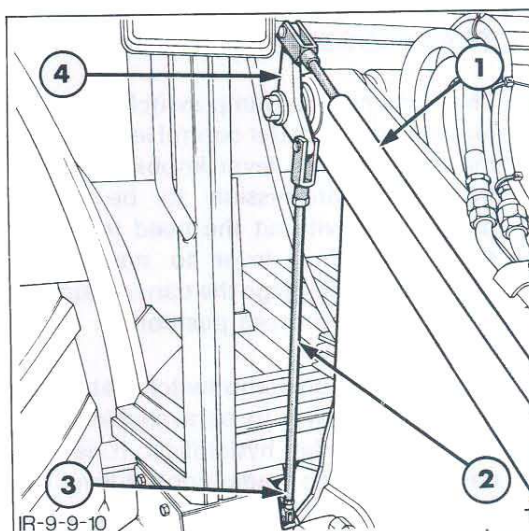

Figure 10
4. Disconnect and remove the hydro-mechanical self-levelling linkage attached to the bellcrank, Figure 10.